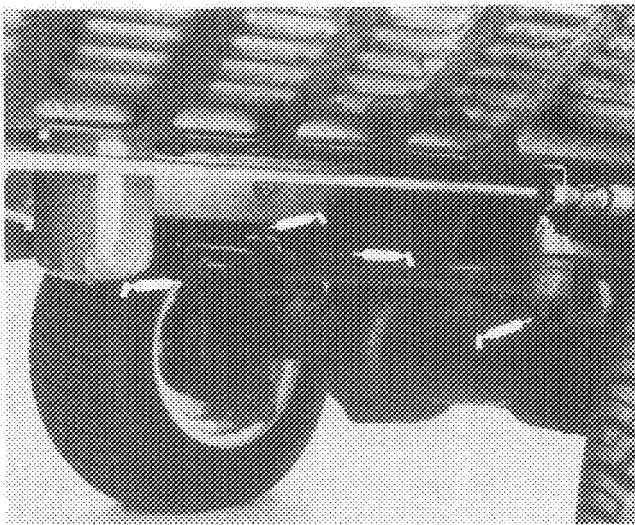
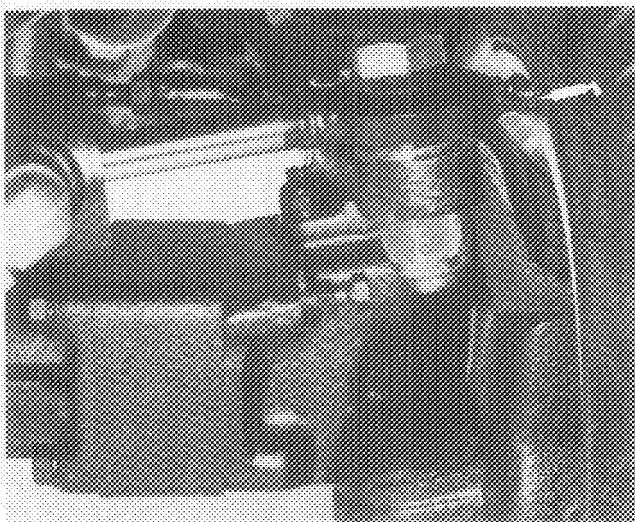

Figure 29
Figure 30
4 wheel drive machines only – tie rod assemblies (2), center pivot (1), axle knuckles (2) (Fig. 29); cylinder ends (2) (Fig. 30).